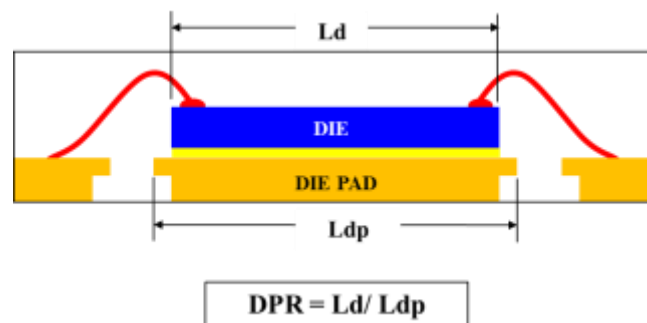

Fig. 1. Die-to-pad ratio (DPR) calculation for a QFN package.
- Die-to-pad ratio (DPR) is the ratio of the die size to the leadframe die pad size as illustrated in Fig. 1.